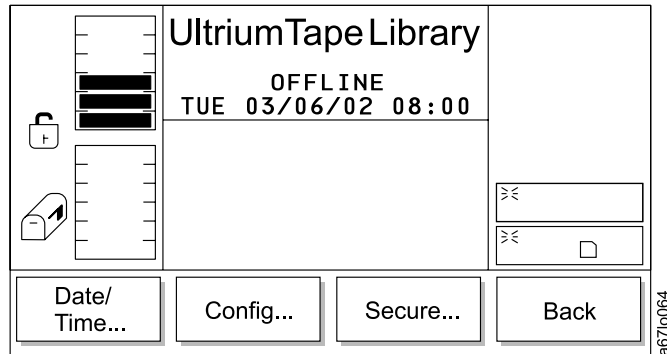

Figure 148. Utils Submenu
- If **Utils** is selected, the Utils Submenu displays (see Figure 148 on page 126).
- If **Cancel** is selected, the Utils Submenu displays (see Figure 148 on page 126).
- If **OK** is selected, the Utils Submenu displays (see Figure 148 on page 126).